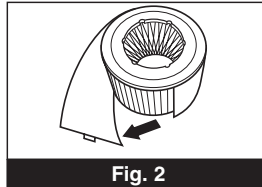

Fig. 2
Step 5: Locate the seam of the pre-filter and carefully separate the fastener to remove the pre-filter from the HEPA filter (Fig. 2).